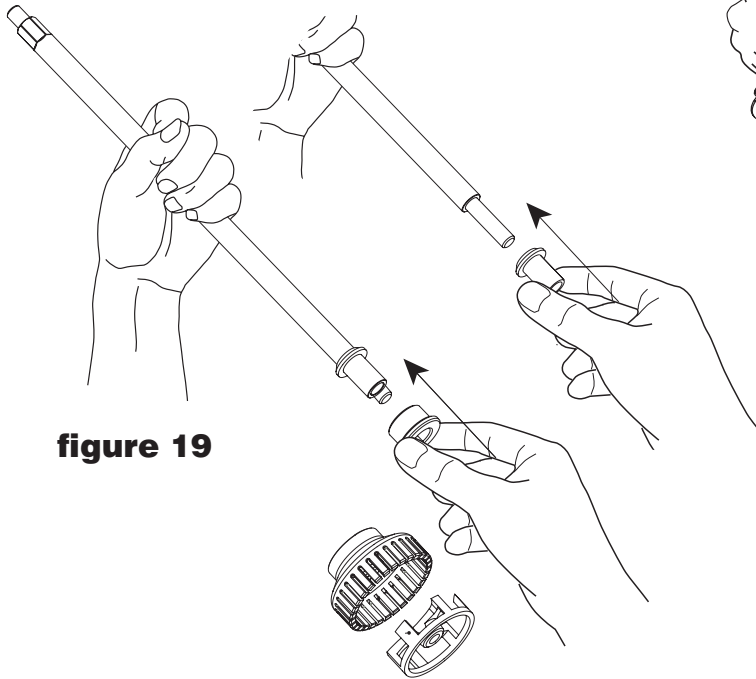

figure 19
1) hold the impeller shaft as shown and slide the metal and resin bushings, in that order, into position **in the direction shown**, then insert the blade cover and finally screw on the blade. (Fig. 19)